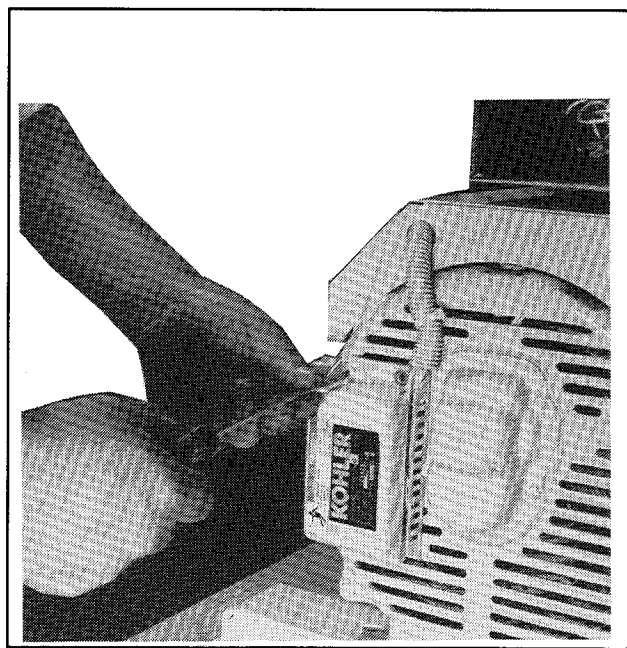

**Figure 10-1. Removing Junction Box Side Panels**
3. Remove four screws securing junction box side panel(s). See Figure 10-1. Remove side panel(s).